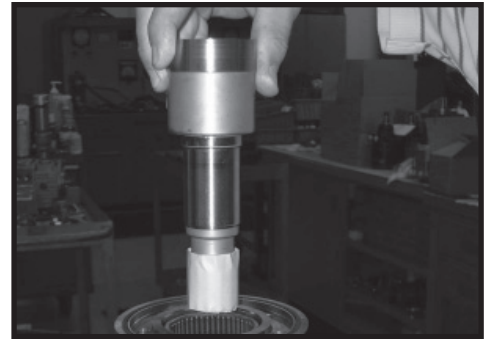

Figure 47
- Be sure that a generous amount of clean corrosion resistant grease has been applied to the lower (outer) housing bearing/bushing (19). Install the coupling shaft (12) into housing (18), seating it against the thrust bearing (15) in TC, TS, TB and TE Series housings and against the second thrust washer (14) in TF, TL, TG and TH Series housings. SEE FIGURE 47.